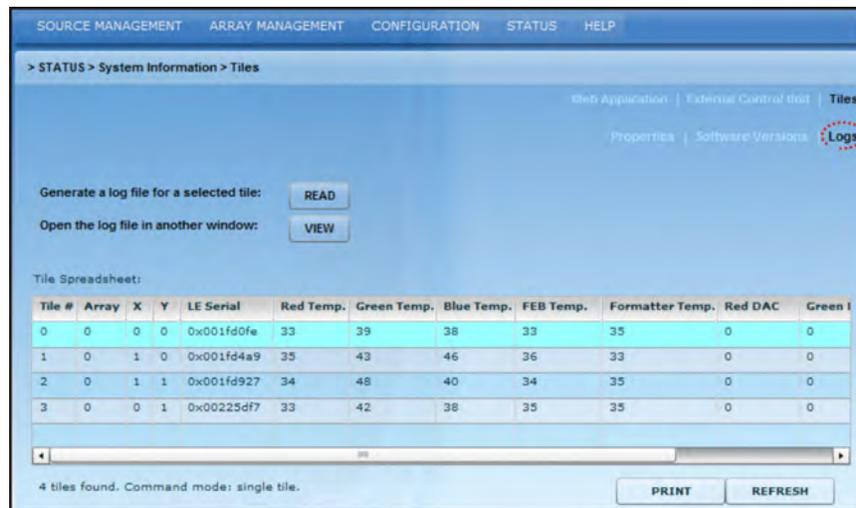

Figure 3-49 Status>System Information>Tiles>Logs
4. Select **Logs**. The screen shown in **Figure 3-49** appears.